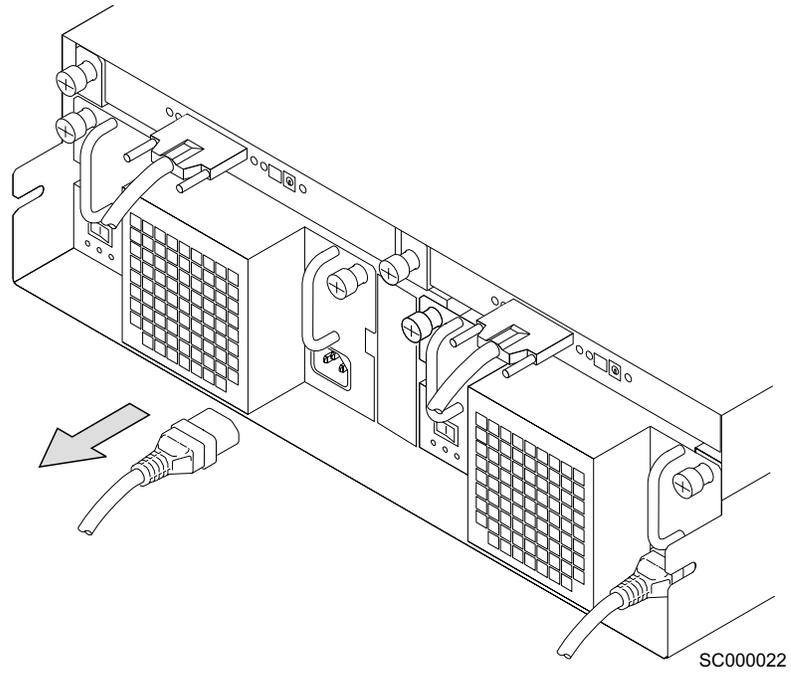

Figure 52. Unplugging the mainline power cable
Note: Figure 51 and Figure 52 on page 41 show a 2104 Model DS4. The steps for exchanging a fan-and-power-supply assembly in a 2104 Model TS4 are the same, but the parts are turned 90 degrees.
2. Unplug the mainline power cable from the failing fan-and-power-supply assembly. See Figure 52.